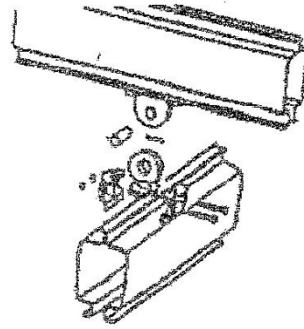

FIG 5A
- 5.1 Attach suspension clamp (supplied) to bridge rail. (FIG 5A)